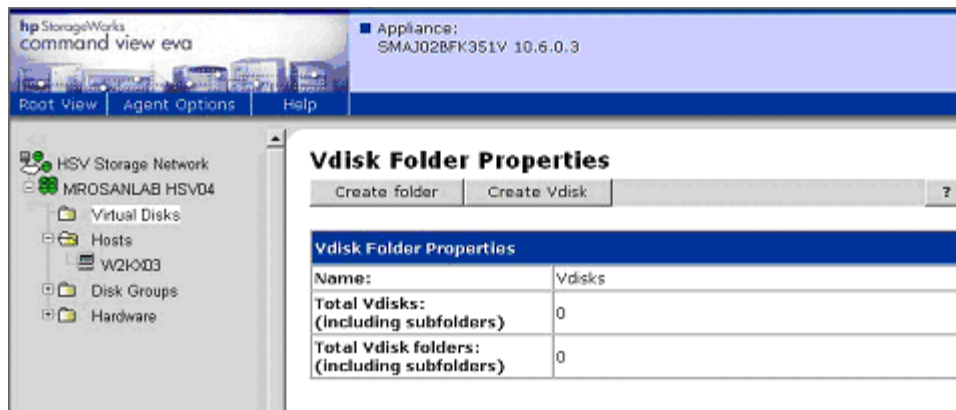

Figure 17 Virtual Disk—Folder Properties
1. Select the Storage Array icon and click on the **Virtual Disks** folder (Figure 17).